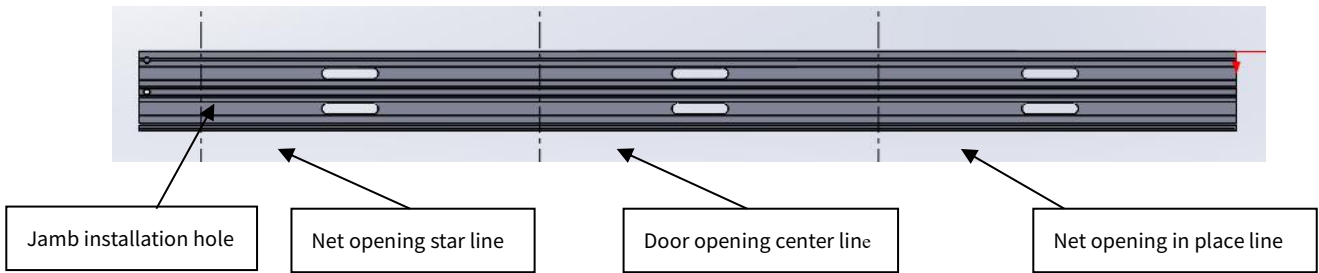

figure8
1.Draw the net opening star line, the net opening in place line and door opening center line on the sill with a needle (as shown in figure 8)